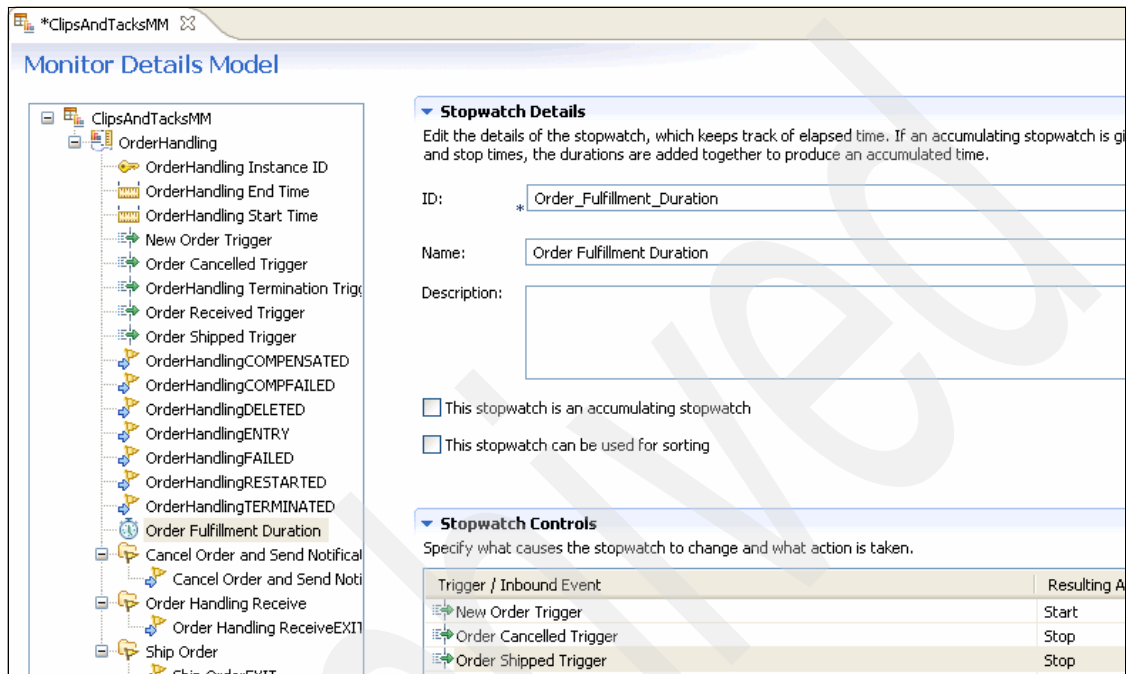

Figure 5-38 Order Fulfillment Duration Stopwatch overview
- h. In the Resulting Action column, change the default setting of *Start* to **Stop** for this trigger. Click the second row in the Resulting Action column (Figure 5-38) and select **Stop** from the list.